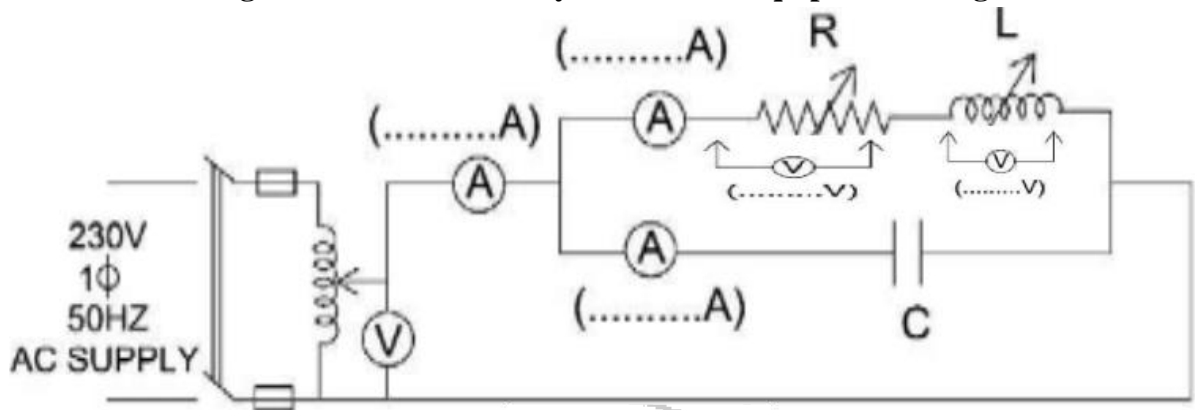

Fig 25.1: R-L-C parallel Circuit
1. Connect the circuit as shown in figure 25.1.